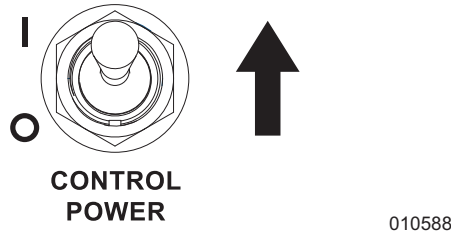

Figure 3-13. Controller Power ON (I)
1. See Figure 3-13. Switch controller power to ON (I).